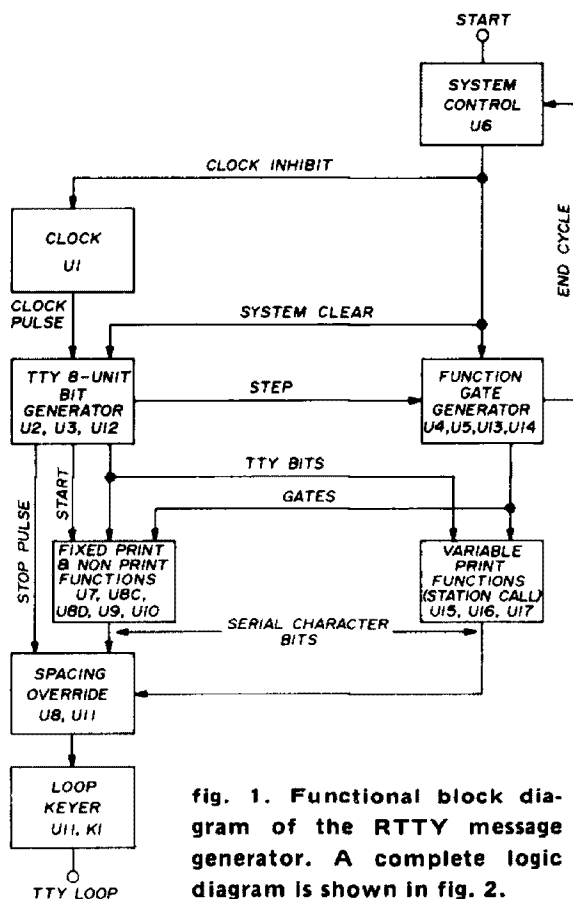

fig. 1. Functional block diagram of the RTTY message generator. A complete logic diagram is shown in fig. 2.
tions for X_L and X_C . John called these networks A, B, and C as shown in fig. 1.
fig. 1. Three types of L-networks which may be used for impedance matching. The accompanying graphs show the range of impedances which may be matched by each of the networks. Point Z in (A) and (B) is the normalized impedance used in the first example in the text. Point Z in (C) is the normalized load impedance used in the second example.
When using the graphs and formulae presented in fig. 1, solve first for the net-
Fig. 1 illustrates the operation of the device at a basic functional block diagram level. A detailed logic diagram is shown in fig. 2.